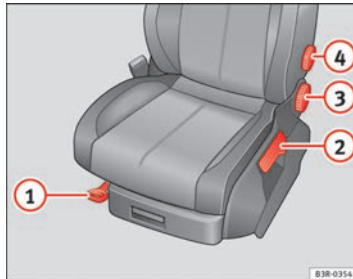

Fig. 104 Adjuster controls on driver seat
- Lift the lever ① ⇒ Fig. 104 and move the seat to the desired position.
- Then release the lever ① and move the seat further until the catch engages.
- Pull the lever ② ⇒ Fig. 104 up repeatedly until the seat is in the desired position.
- Turn the adjuster wheel ③ ⇒ Fig. 104 to set the angle of the backrest as required.
- Do not exert any pressure on the backrest and turn adjuster wheel ④ ⇒ Fig. 104 to adjust lumbar support.